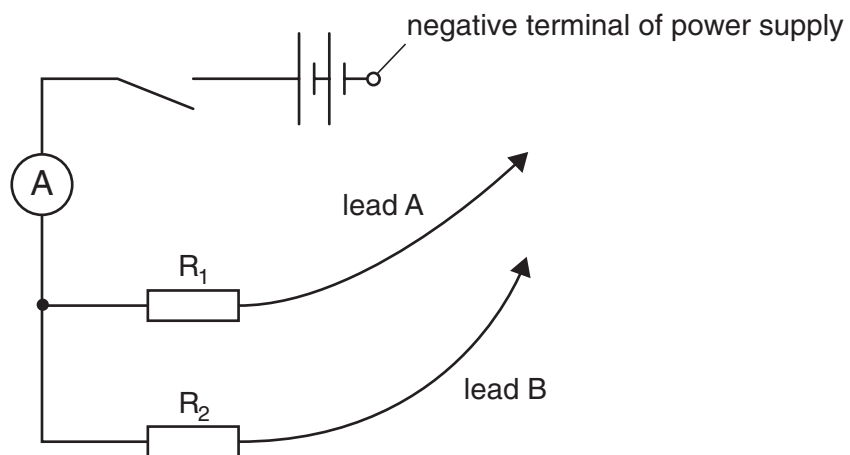

Fig. 3.1
Six connecting leads to enable the Supervisor to set up the arrangement shown in Fig. 3.1.
1. When the Supervisor sets up the arrangement as shown in Fig. 3.1, the lead connected to the 10 Ω resistor should be labelled A and the lead connected to the 18 Ω resistor should be labelled B.
4. At the changeover, Supervisors should check that the arrangement is still set up as shown in Fig. 3.1.